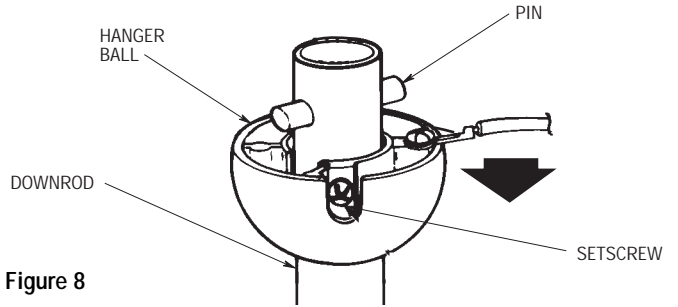

Figure 8
- 12. Remove the hanger ball by loosening the setscrew in the hanger ball until the ball falls freely down the 6" downrod (Figure 8). Remove the pin from the downrod, then remove the hanger ball. Retain the pin and hanger ball for reinstallation in Step 16.